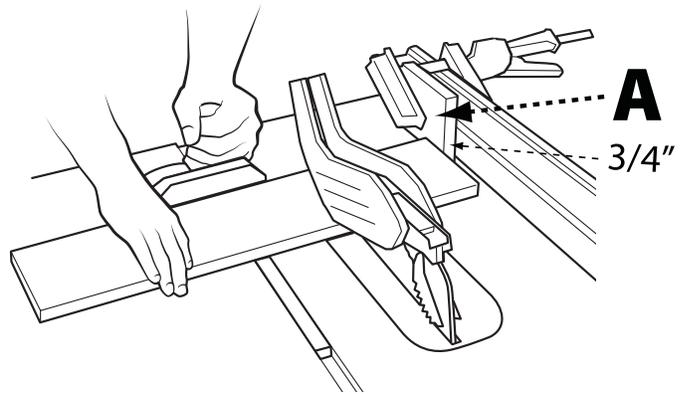

FIGURE 36
When crosscutting a number of pieces to the same length, you can clamp a block of wood (A) (as shown in Figure 36) to the fence and use it as a cut-off gauge. The block (A) must be at least 3/4-inch (19 mm) thick to prevent the cut off piece from binding between the blade and the fence. Once the cut-off length is determined, lock the fence and use the miter gauge to feed the workpiece into the blade.